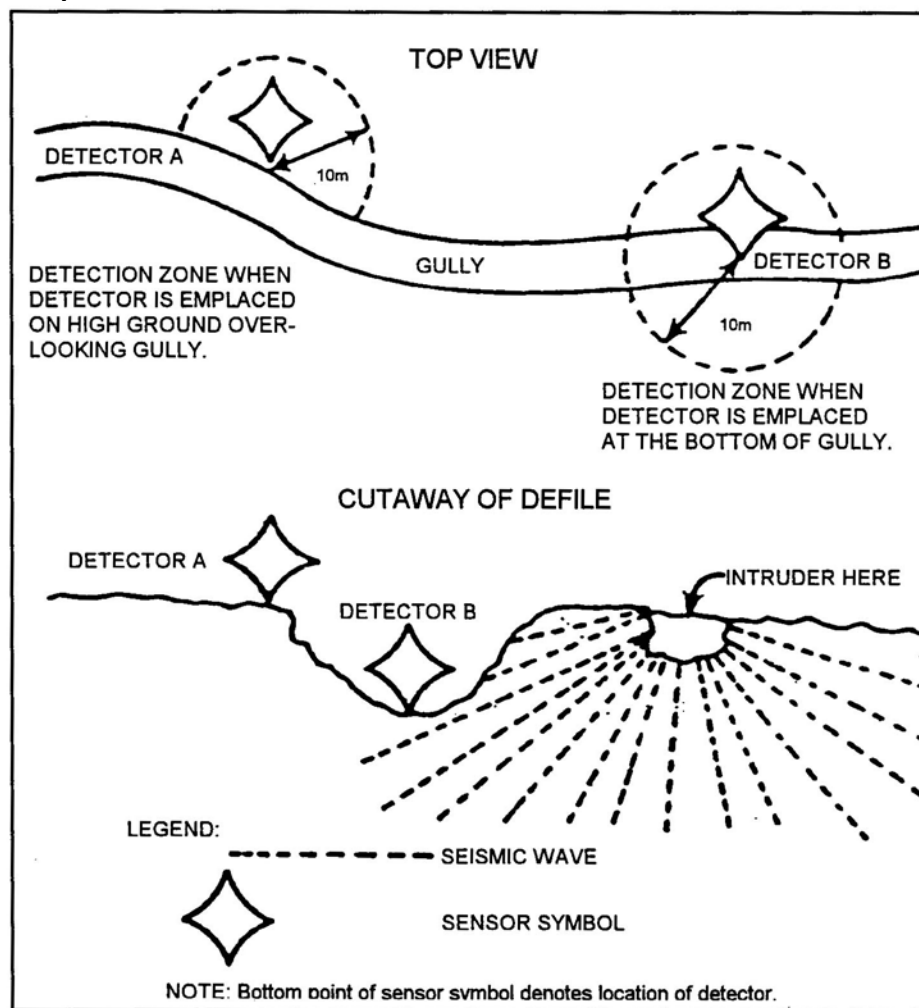

Figure 3. Installation in ditches or gullies.
- (4) When installing detectors to cover ditches or gullies, the detector must be placed in the bottom of the ditch or gully rather than on the edge (Figure 3).